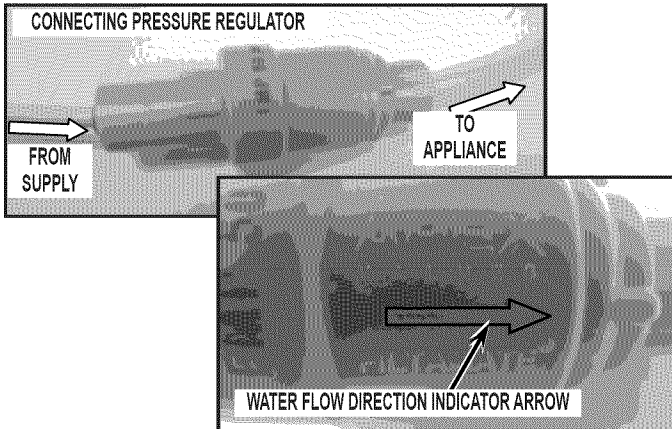

FIGURE 4
- Connect the pressure regulator in between the loose ends of the water line by pressing the line ends firmly into the pressure regulator's connectors. See *Figure 4*.